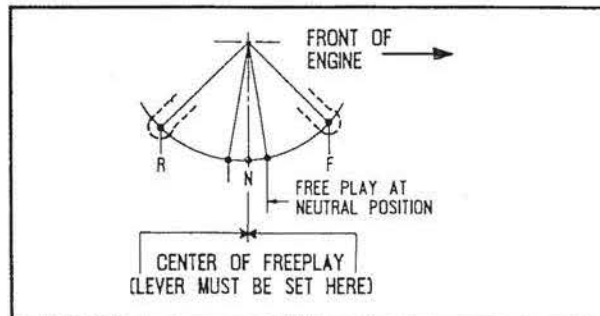

Figure 4
- a. Place the remote control hand lever in the **NEUTRAL** position and place the shift lever on the engine in the **NEUTRAL** position. Note the amount of freeplay in the shift lever and position the lever in the center of this travel, as shown in Figure 4.
- c. Recheck the position of the shift lever as shown in Figure 4. Adjust the terminal on the cable rod end until the hole slips over the pin on the shift lever. Secure the terminal to the pin using the flat washer and locknut.